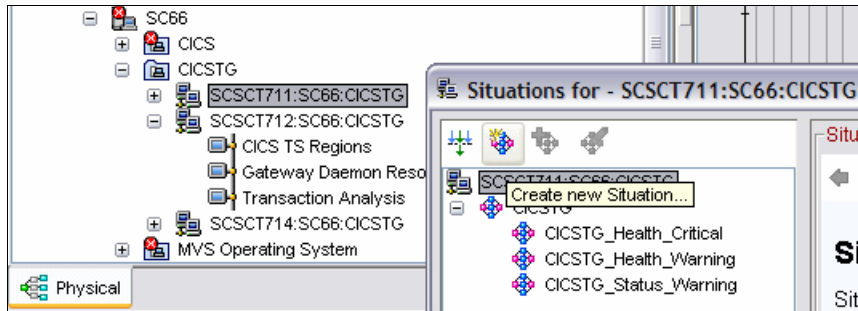

Figure 6-10 Create situation
3. Click the **Create Situation** icon in the top left hand corner, as shown in Figure 6-10.